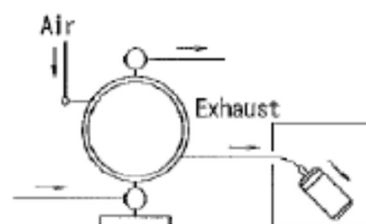

Fig. 3.2
- *Exhaust should be directed outside, not into the fluid in which the pump is submerged. For information on how to arrange the exhaust, see Note: Arranging outside exhaust and Fig. 3.2 below.